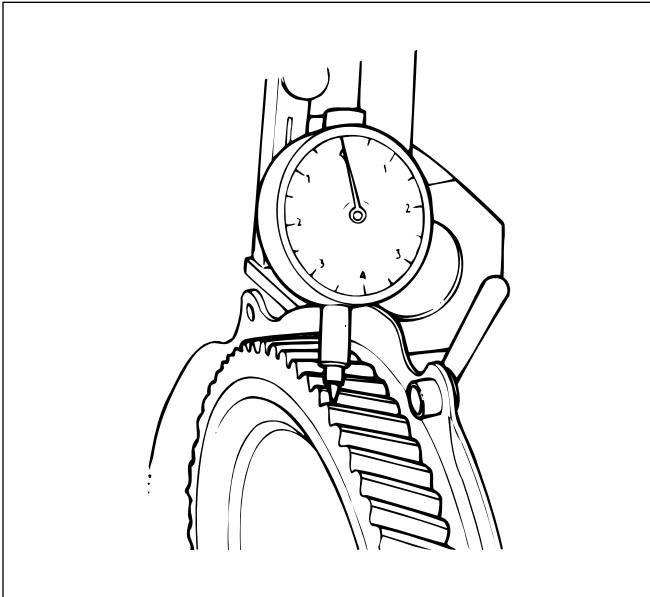

Fig. 2-36. Using a dial indicator to check timing gear backlash.
1. Attach a dial indicator to the engine so that its plunger tip is in line with the edge of the gear and resting on the edge of a gear tooth, figure 2-36